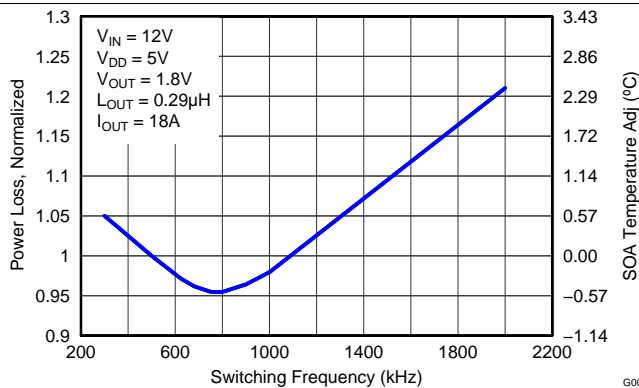

Figure 5. Normalized Power Loss vs Frequency
- Normalized Power Loss for switching frequency ≈ 1.09 (Figure 5)
- SOA adjustment for switching frequency $\approx 1.1^\circ\text{C}$ (Figure 5)